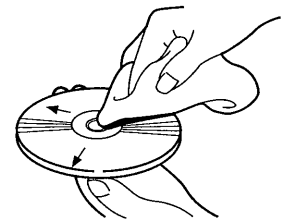

Fig. 33
- Dust and/or finger smudges will have no direct effect on the signal recorded on the disc, but dirt can decrease the amount of light reflected from the recorded surface, thus affecting sound quality. If the disc should become soiled, gently wipe the surface with a soft lint-free cloth, wiping from the center of the disc to the edge. (Fig. 33)